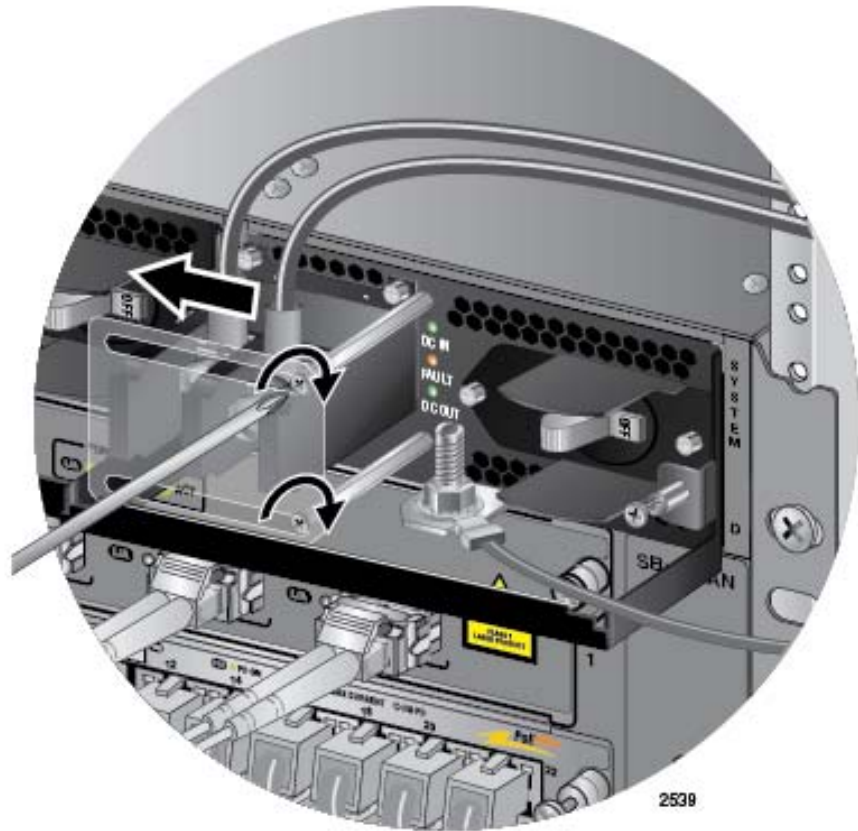

Figure 129. Closing the Plastic Cover over the Terminal Connectors
6. Slide the plastic cover to the left and lightly tighten the two screws with a #1 Phillips-head screwdriver to secure the cover. See Figure 129 on page 172. You might need to lift the locking handle slightly to access the bottom screw.